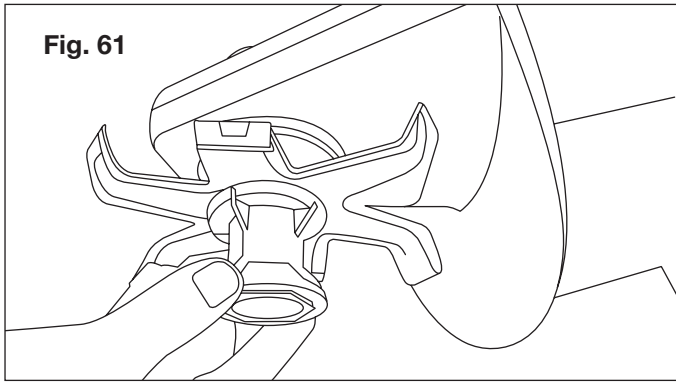

Fig. 61
4. Remove the old blades while taking note of the sequence of assembly. Install the new blades in the order they were prior to disassembly. Tighten with the locknut. (Figs. 61 – 66).